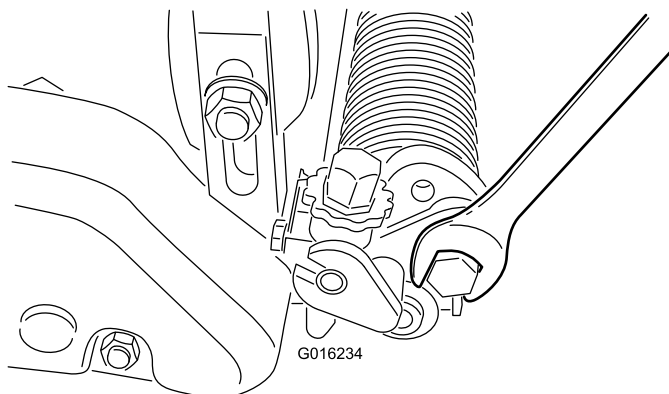

Figure 23
- A. Loosen the bolts on the right and left groomer arms (Figure 23).